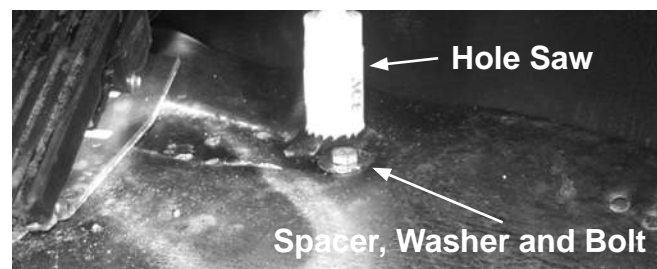

Figure 4-3
5. Using a hole saw, carefully trim away the floor mat around the clamped washer and spacer (see Figure 4-3).